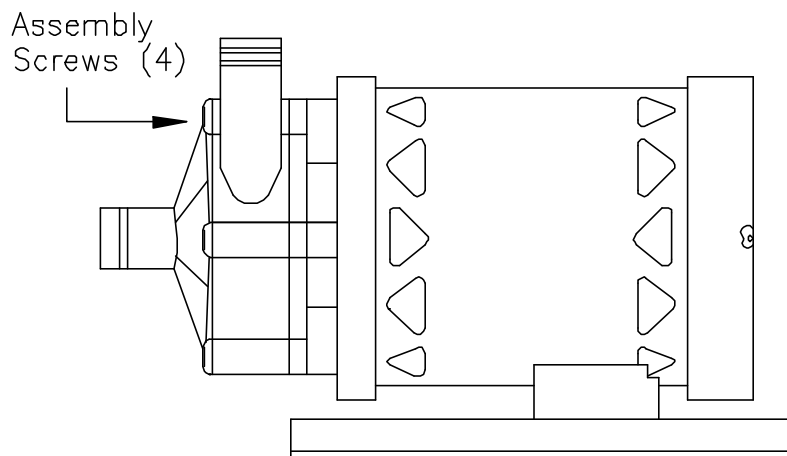

Figure 5-3. Circulation Pump
2. Place towels under the pump head being serviced. Carefully loosen and remove the assembly screws that hold the pump head to the adapter housing, as shown in figure 5-3.